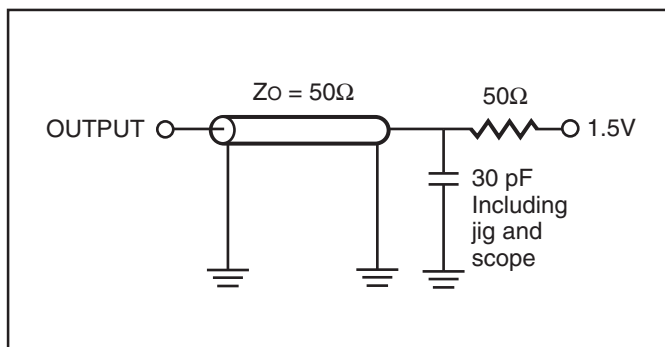

Figure 1.
1. Test conditions assume signal transition times of 5 ns or less, timing reference levels of 0.9V/1.5V, input pulse levels of 0.4 to V_{DD}-0.2V/0.4V to V_{DD}-0.3V and output loading specified in Figure 1.
1. Test conditions assume signal transition times of 5 ns or less, timing reference levels of 0.9V/1.5V, input pulse levels of 0.4 to $V_{DD}-0.2V$ /0.4V to $V_{DD}-0.3V$ and output loading specified in Figure 1.